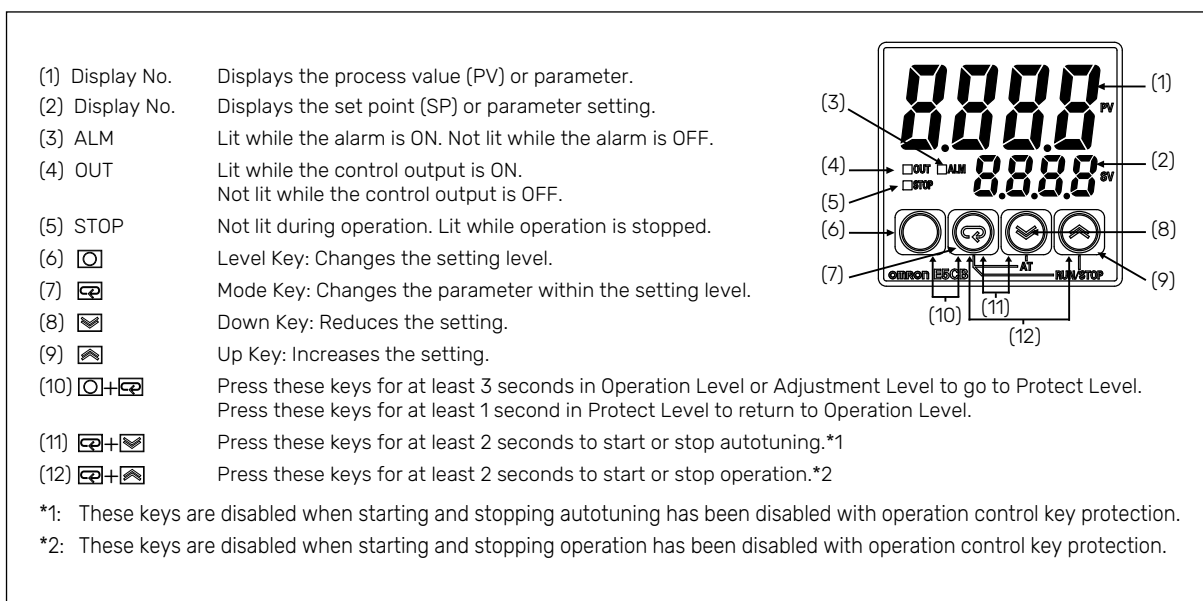

Fig. 7. The display panel of the temperature control unit.
Fig. 7 shows the various parts of the temperature control panel in the control unit.
To set the temperature, the control unit must be in operation mode (fig. 7. – hold (6) for three seconds).